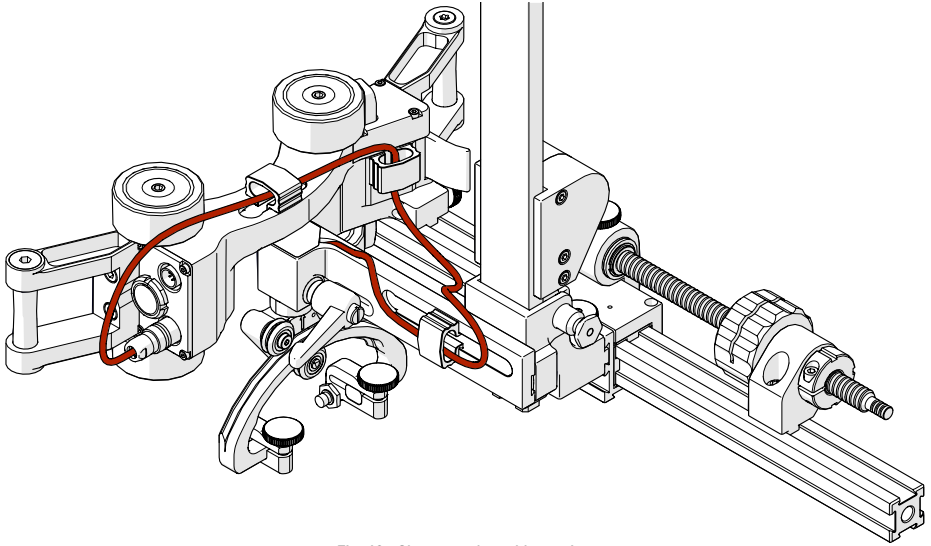

Fig. 48 - Skew encoder cable routing
8. Route the skew encoder cable through the required cable clips (Fig. 48).
9. Plug the skew encoder cable into ENC 2 at the rear of the low profile link (Fig. 48).